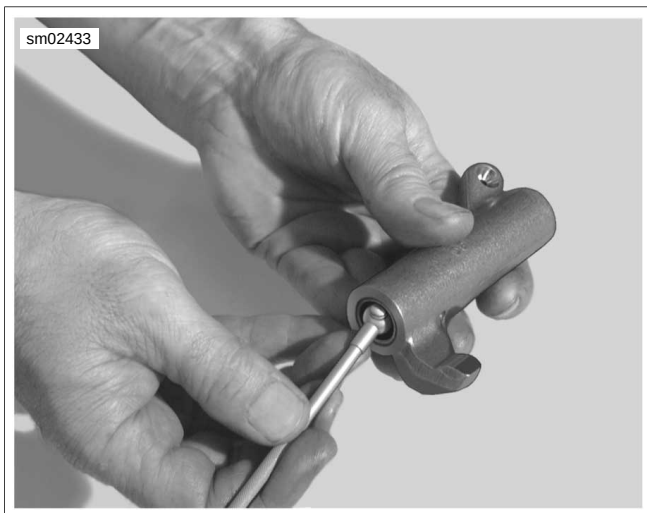

Figure 3-34. Checking Bushings
- a. See Figure 3-34. Measure the inside diameter of the rocker arm bushing.